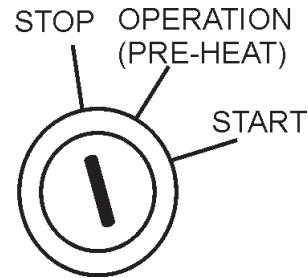

Figure 51. Ignition Switch (Emergency)
1. Place the **MAIN, GFCI** and **LOAD** (Figure 51) circuit breakers to **“OFF”** position.